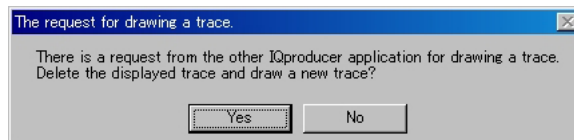

Figure 3.1.7-6 Confirmation screen
2. When **Time Domain** is clicked in the **Simulation** menu or  is clicked, a message such as that shown in Figure 3.1.7-6 is displayed.